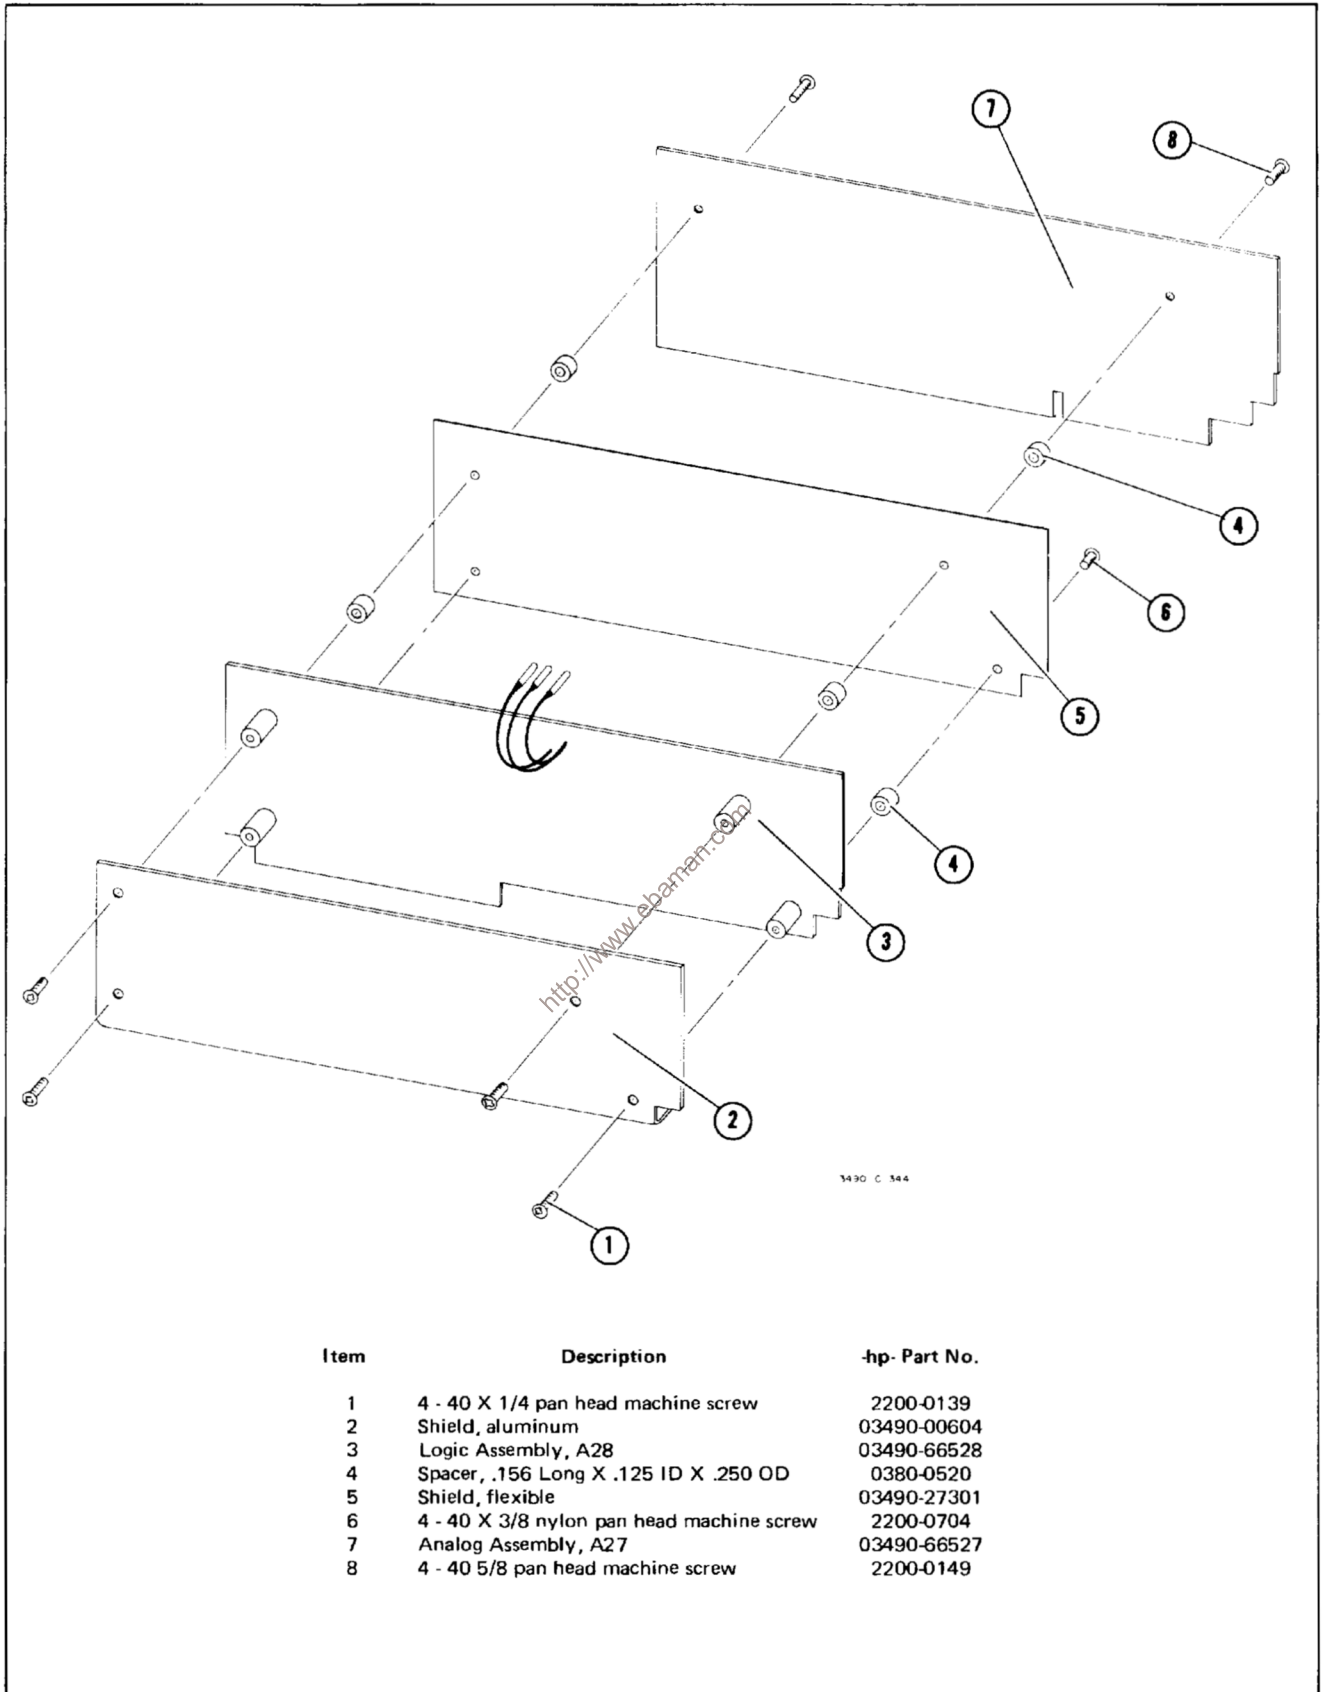

Figure 7-3. Sample/Hold Assembly.
7-62. If it becomes necessary to separate the Sample/Hold printed circuit assemblies in order to replace certain components, it is preferable not to disassemble more than necessary. For example, if a repair is to be made to the Analog Assembly, A27, the flexible shield should not be removed from A28. If the unit has been disassembled, use the following procedure and Figure 7-3 for reassembly.
a. Place Logic Assembly A28 (item 3 in Figure 7-3) component side down on work surface. Place 4 spacers (item 4) over the four captive spacers in A28.
c. Secure shield to A28, using two nylon screws (item 6) in the two holes nearest the bottom edge of A28. *These screws must be non-metallic.*
d. Place two spacers (item 4) on top of the other two holes in flexible shield.
e. Place Analog Assembly, A27, component side up over the two spacers in step d and secure with the screws (item 8).
f. Secure aluminum shield (item 2) over component side of A28, using four screws (item 1).